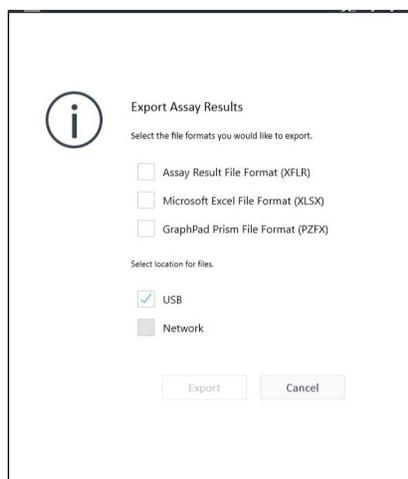

Figure 26. Export options dialog box.
- 2 Export options:** Assay result files may be exported to Microsoft Excel or GraphPad Prism file formats (requires a USB flash drive or shared network directory). See Figure 26. To export these files (either individually or collectively) to a network location or USB, click the individual check box or click **Select All**, and then click **Export**.